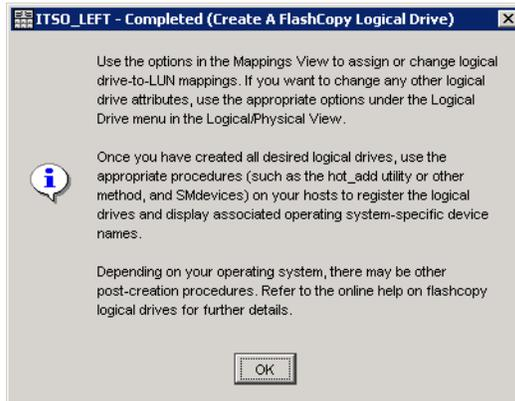

Figure 7-10 Create a FlashCopy Logical Drive: Complete
- d. The Wizard then displays a completion message (Figure 7-10). Click **OK** to continue.
Click **Finish** and the Create FlashCopy Wizard Complete message box is displayed, as seen in Figure 7-10 on page 413. Read the notice and click **OK** to continue.